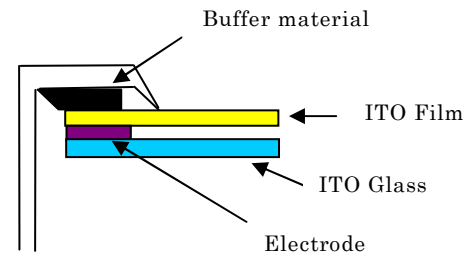

Fig. 10-2
- (5) Avoid the bezel design as fig10-2.